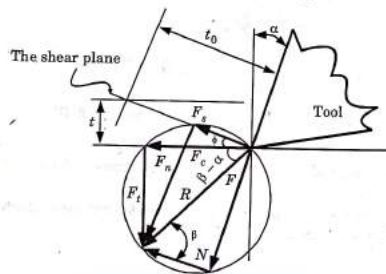

Fig. 2.5.1. Merchant's force circle.
3. Merchant's force circle diagram is shown in Fig. 2.5.1.